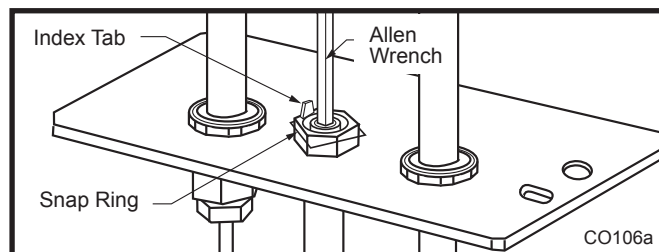

Fig. 81 Remove pilot orifice.
2. Remove pilot orifice with allen wrench. (Fig. 81)